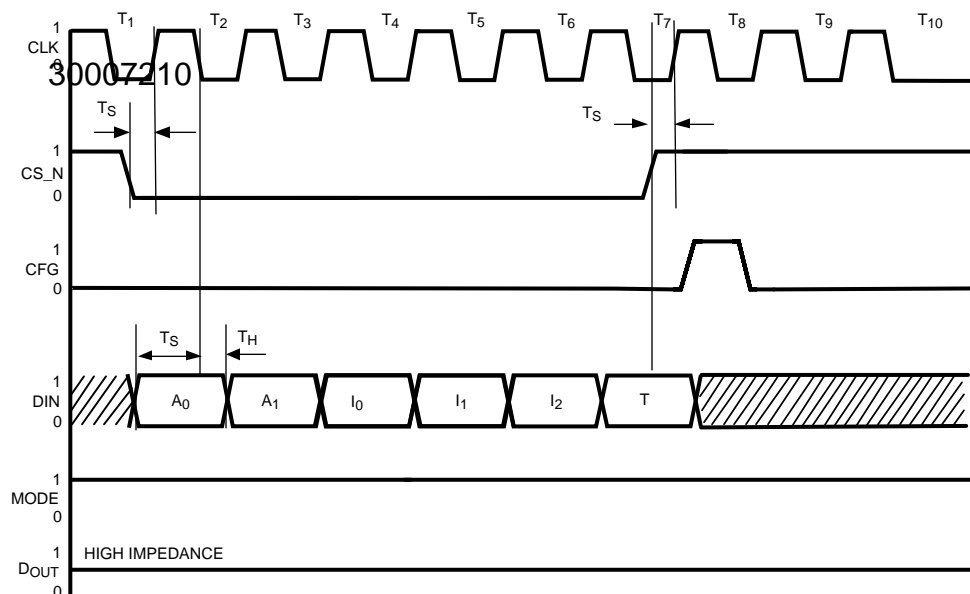

Figure 9. Timing Diagram for Addressed Mode
Also illustrated is the timing relationships for the digital pins in Figure 9. It is important to note that all the pin timing relationships are important, not just the data and clock pins. One example is that the Chip Select pin (CS) must transition low before the first rising edge of the clock signal. This allows the internal timing circuits to synchronize to allow data to be accepted on the next falling edge. The chip select pin must then transition high after the final data bit has been clocked in and before another clock signal positive edge occurs to prevent invalid data from being clocked into the chip. Also, in addressed mode is it necessary for the clock signal to make a low to high transition after the chip select pin has been brought high. If there is not a low to high transition of the clock after the chip select pin goes high subsequent data will not be loaded into the chip properly. The configure (CFG) pin timing is not critical, but it does need to be kept low until all data has been shifted into the crosspoint registers.